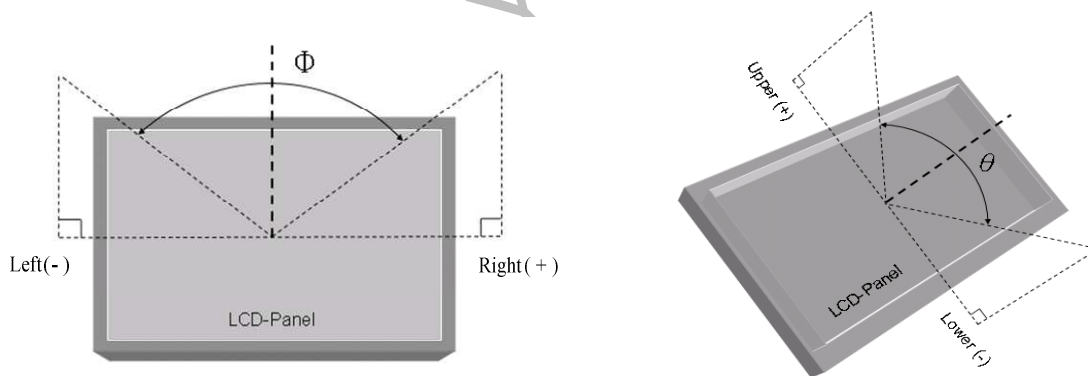

Fig 7-2 Definition of Viewing Angle
*3) Definition of Viewing Angle(θ, ψ), refer to Fig 7-2 as below :